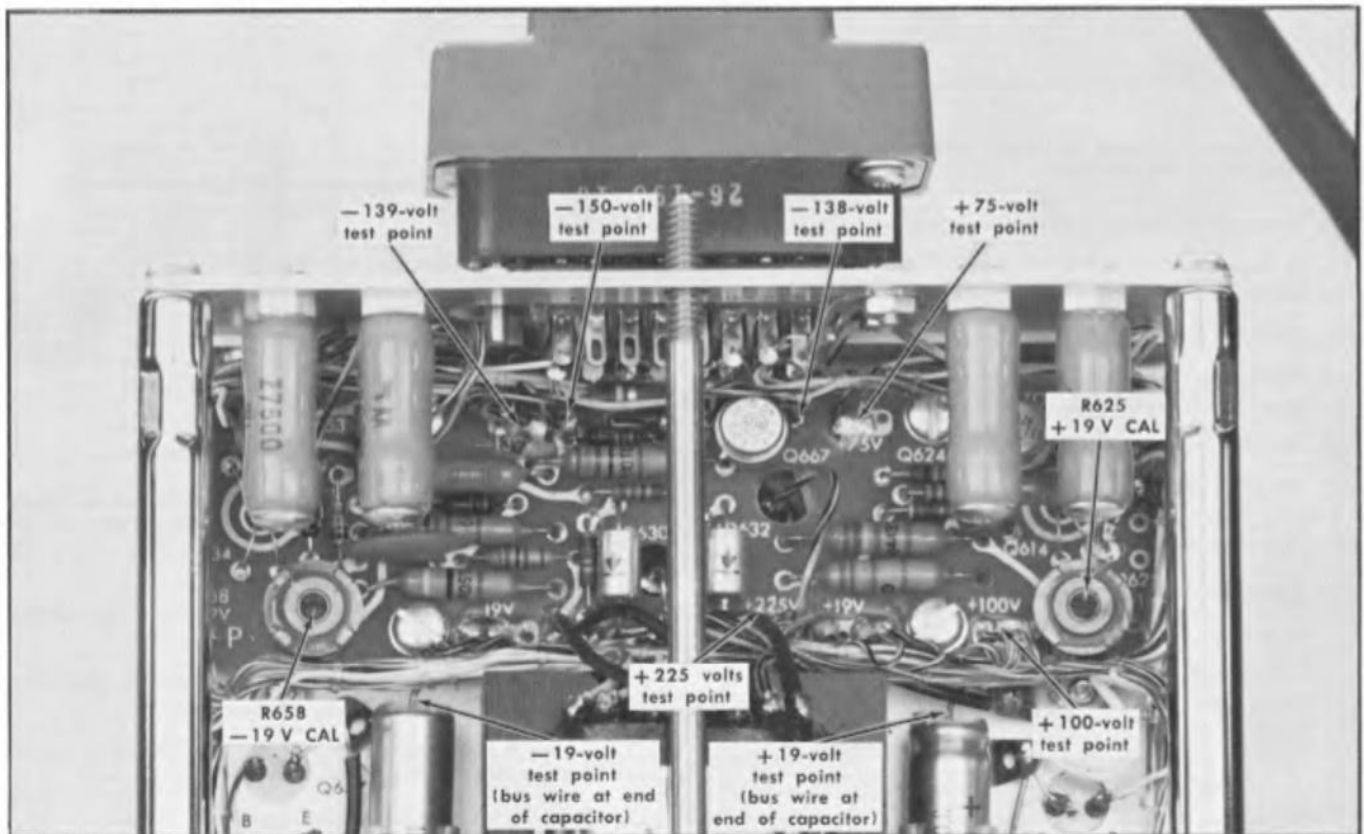

Fig. 5-4. Voltage test points and adjustment controls on bottom side of Type 151.
- d. Touch the tip of the 1X test probe to the -19-volt test point (see Fig. 5-4).
- h. Touch the probe tip to the +19-volt test point (see Fig. 5-4).
b. Connect the tip of the 1X test probe to the -19-volt test point (see Fig. 5-4). Be sure to connect the test probe ground clip to chassis ground.
- h. Connect the tip of the test probe to the +19-volt test point (see Fig. 5-4).